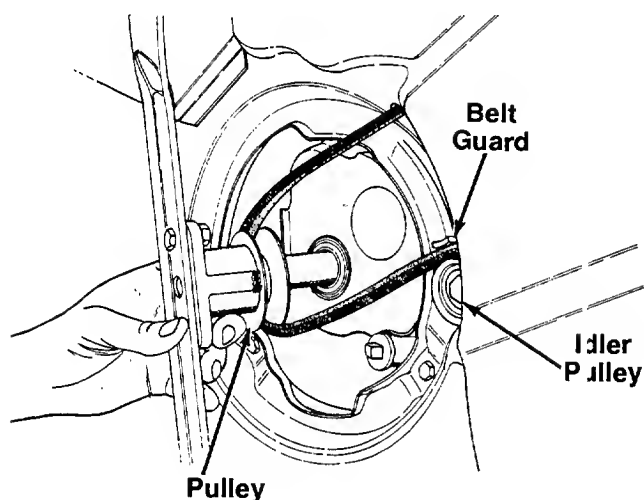

FIGURE 28.
7. Remove the belt from between the idler pulley and the belt guard on the idler pulley bracket. Refer to figure 28.
- C. Release the idler pulley so it falls down into position. Slide the belt in between the idler pulley and the belt guard on the idler pulley bracket as shown in figure 28.